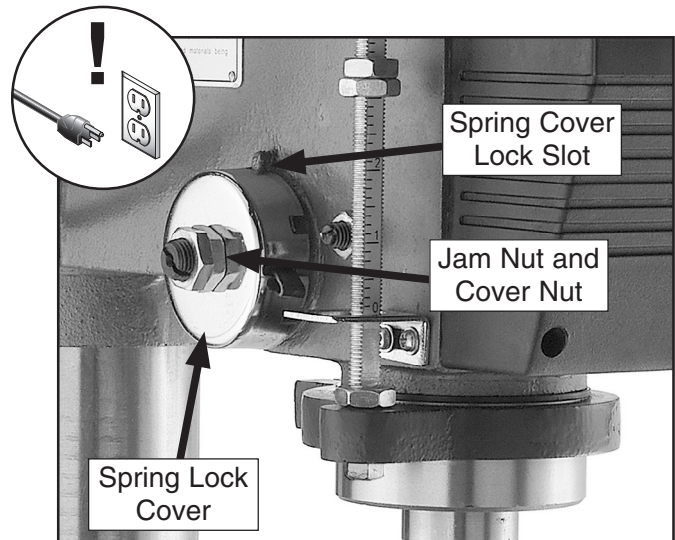

Figure 37. Feed shaft return spring assembly.
2. Wipe off any oil on the spring lock cover so it does not slip in your fingers when you hold the cover from spinning (see **Figure 37**).